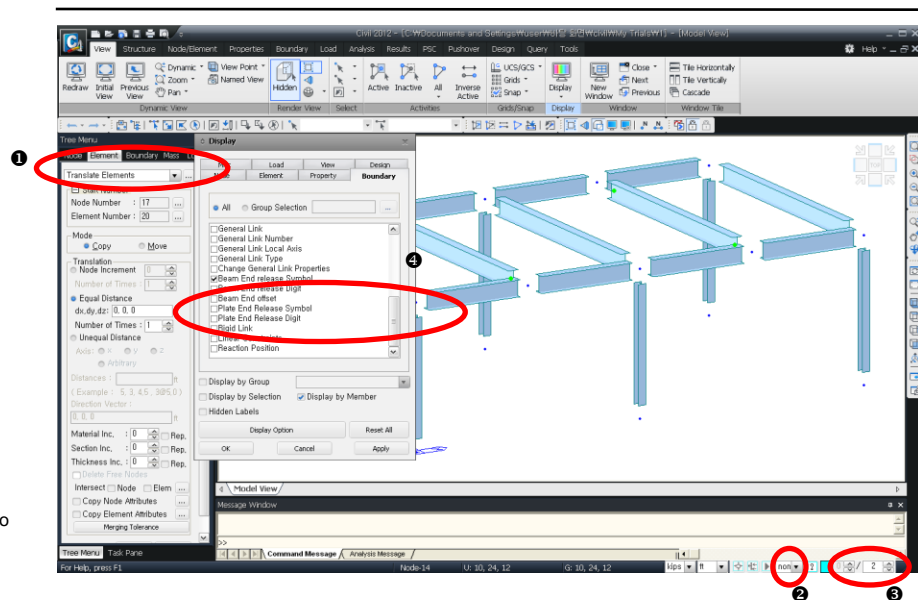

Figure 1.11 Generation of Girders and Beams
Even if  **Node Number** is not toggled on, the attributes of snapped nodes can be easily verified using **Fast Query** (Fig.1.11-②).
Civil allows mouse snap at the centers of the elements as well as any particular point in the elements by using **Snap** located at the bottom of the screen (Fig.1.11-③).